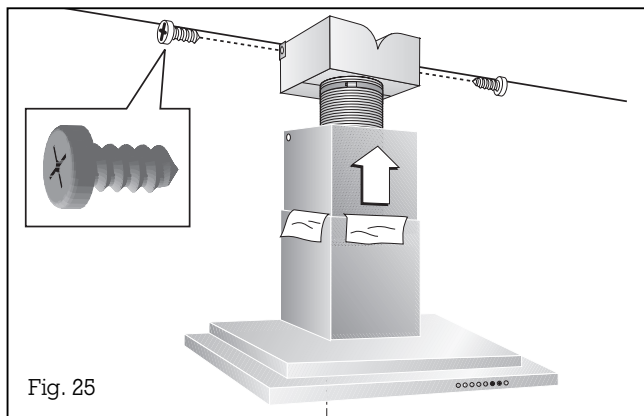

Fig. 25
- Pull the top chimney duct unit up into its final position and secure it with 2 screws on the ceiling holder (Fig. 25).